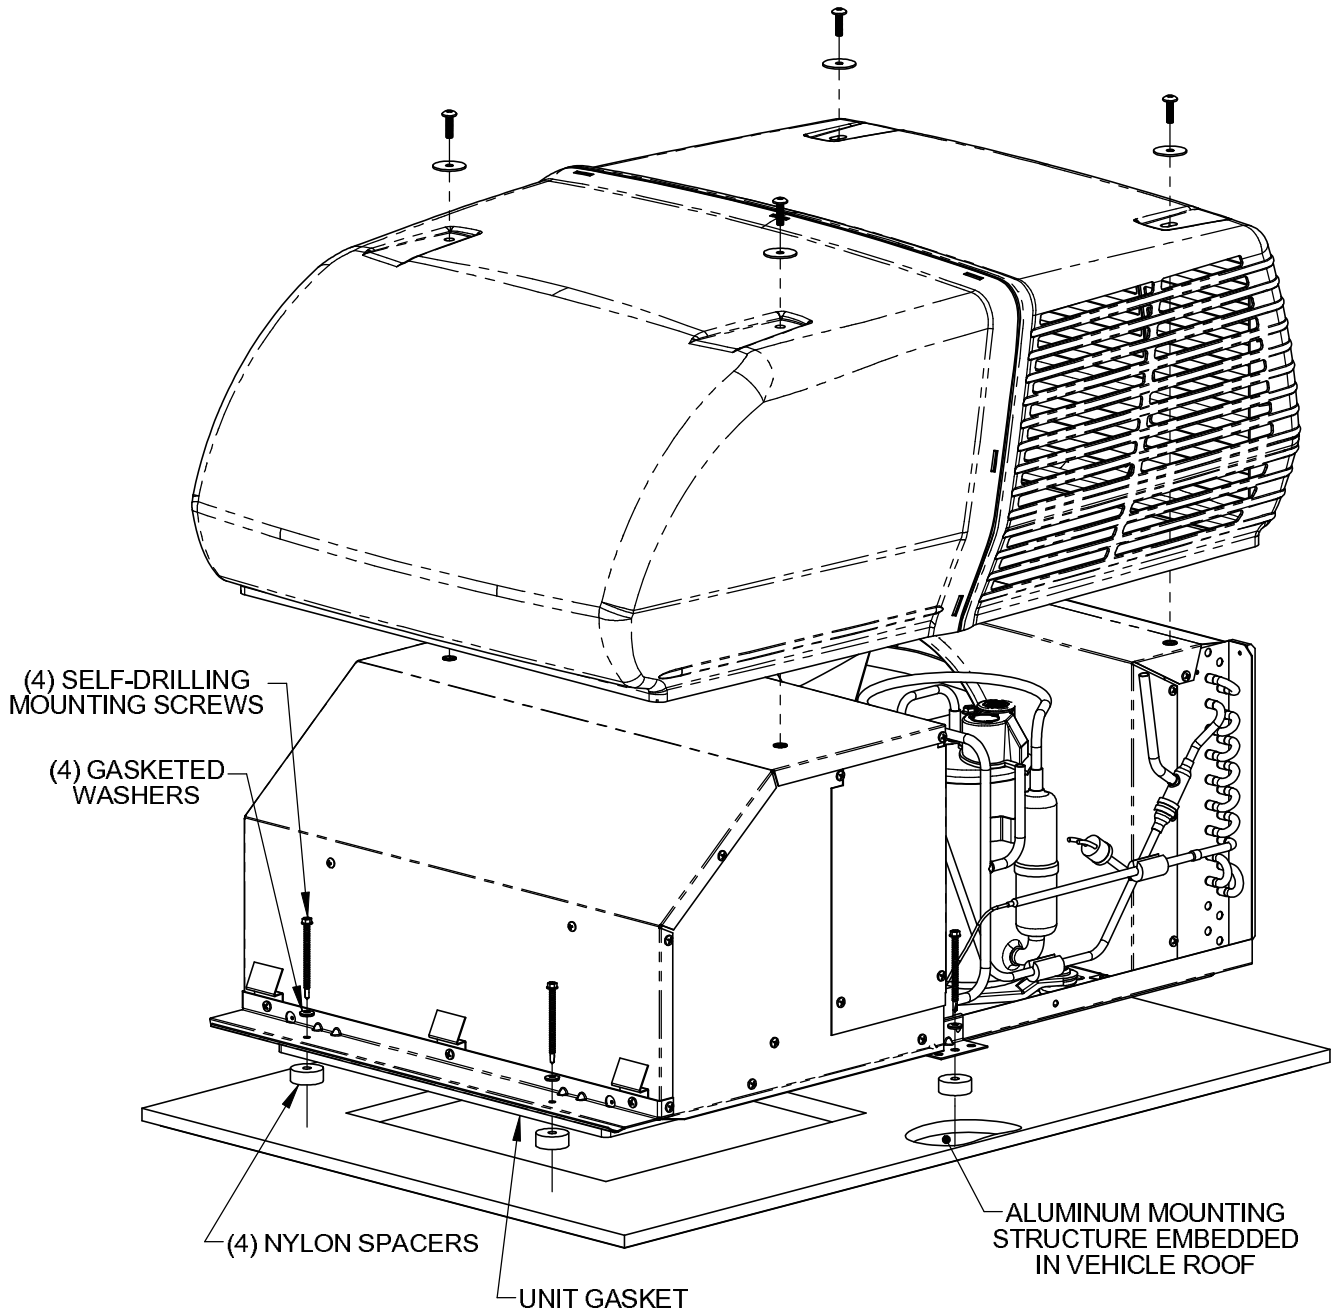

FIGURE 2
6. Apply silicone to the top and bottom face of the 4 provided spacers and locate under the front mounting brace and side brackets as shown in Figure 2.
7. Using the 4 provided self-drilling screws and gasketed washers, run the screws down through the mounting brackets, through the spacers and into the vehicle roof. Tighten screws just until the spacers pull down to the roof. Use care to **NOT STRIP THE SCREWS**. See Figure 2.